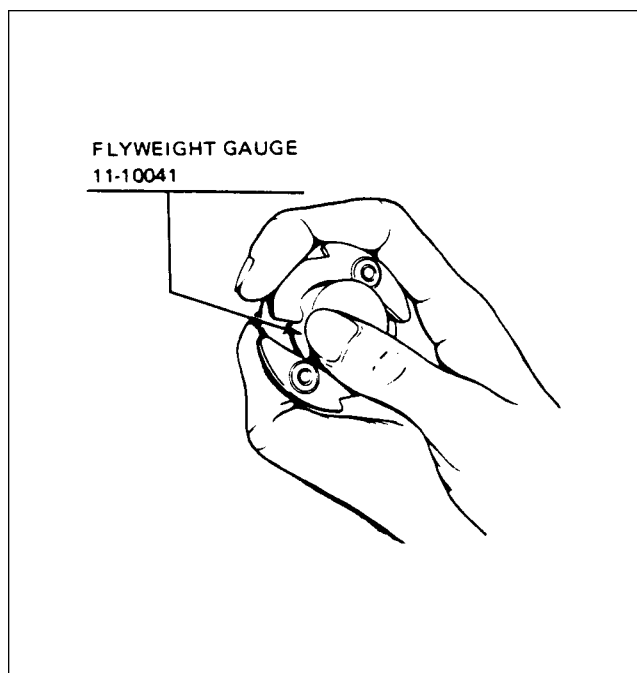

Figure 74-14. Checking Flyweight Radial Wear with Gauge
4. Inspect for axial wear between flyweight and axle using shank of a new No. 35 drill as a gauge. Hold flyweight so outer radius is in alignment with rim of cam flange and try to insert drill shank between flange and flyweight as shown in figure 74-14. Do not force drill. If drill can be inserted, replace cam assembly.
5. Inspect for excess radial wear between flyweight and axle using the 11-10041 flyweight gauge. Insert gauge between flyweights and against cam hub as shown in figure 74-14. If gauge cannot be inserted easily, remove burr from edges of hub keyway with a small file. Hold gauge firmly against hub, at the same time squeezing flyweights against gauge. If inner end of either flyweight heel touches gauge, replace cam assembly. If parts are near limits, check clearance between flyweight and gauge with a 0.003 inch feeler. If flyweight heel is tight on feeler, replace cam assembly.